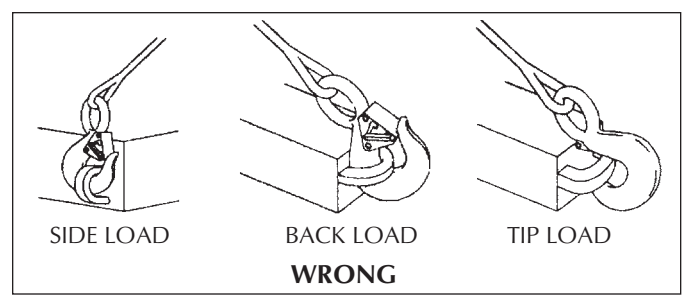

FIGURE 2
- Never side load, back load, or tip load a hook. (see figure 2)